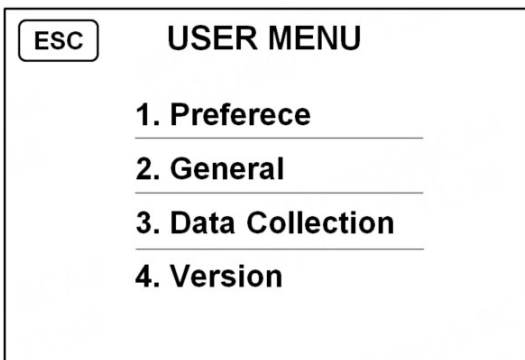
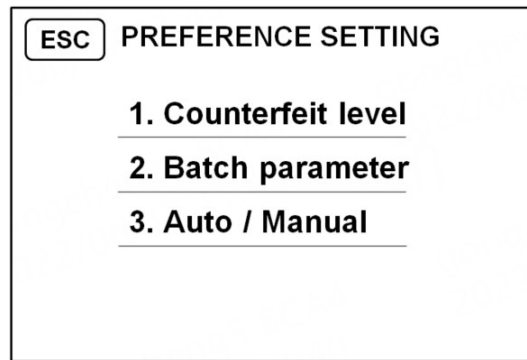
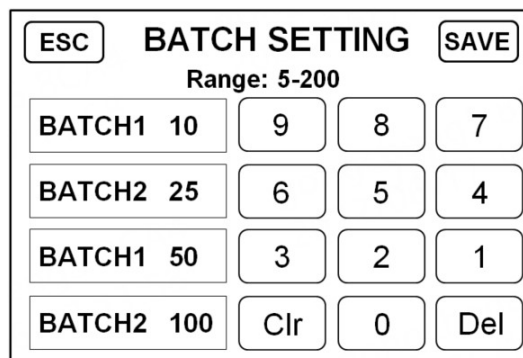

Figure 26
Figure 27
Figure 28
1) Press the **"MENU"** key on the right to enter the USER MENU main interface, as shown in Figure 26 below, and press "1. Preference" to enter the PREFERENCE SETTING interface, as shown in Figure 27.
2) Press **"2. Batch parameter"** under Figure 26 to enter the preset number setting interface, as shown in Figure 28.